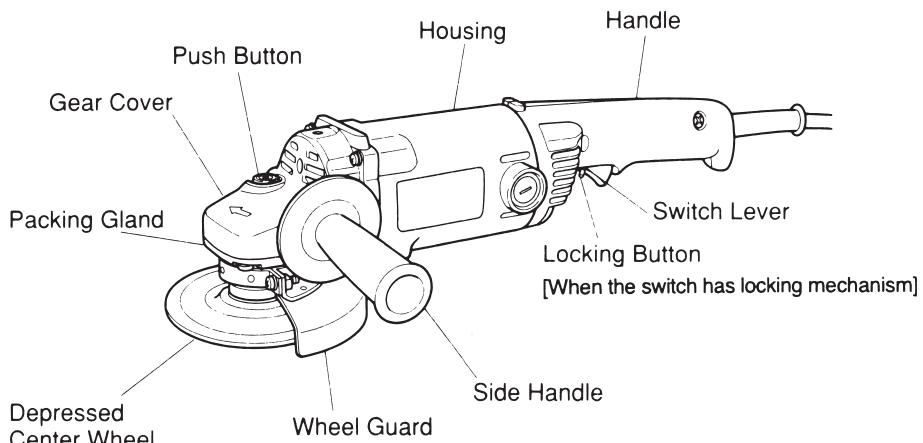

Fig.1
**1. Hold the grinder firmly by its body handle and side handle (Fig.1)**